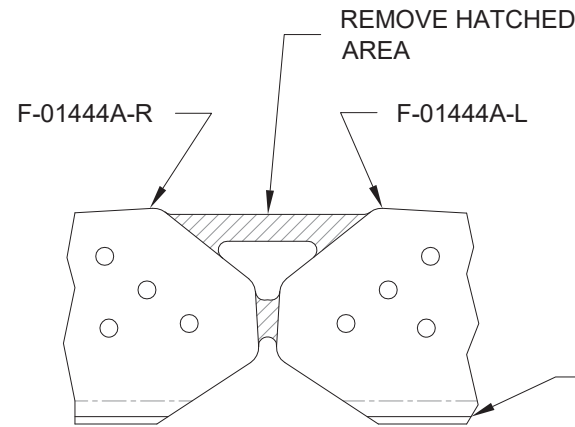

FIGURE 2: SEPARATE LONGERON DOUBLER
Step 2: Separate and label the F-01444A-L & -R Longeron Doublers as shown in Figure 2.